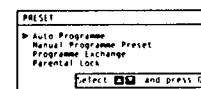

Fig. 6.
- Select Preset with  $\Delta$  or  $\nabla$  and press OK. The PRESET menu appears. (See Fig. 6.)